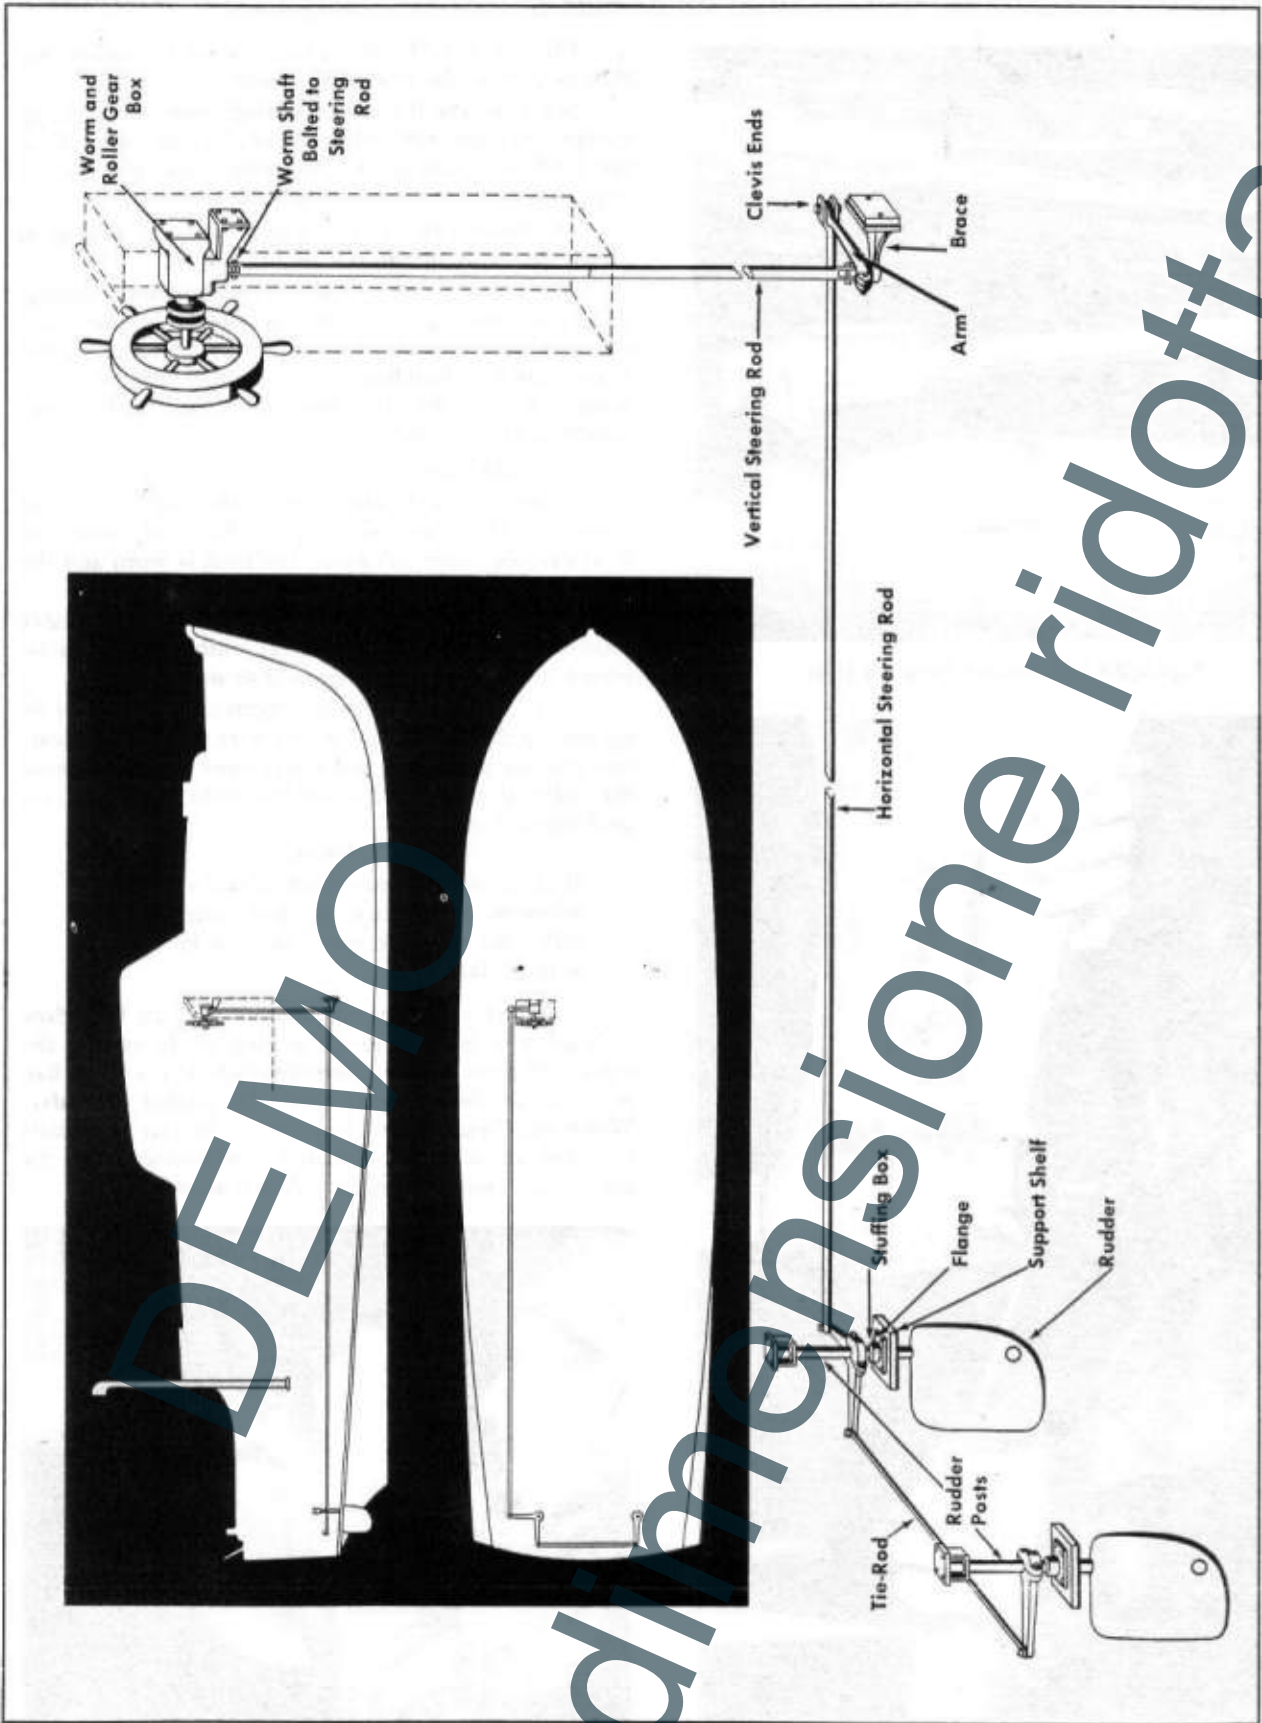

Figure 77—Link-Rod Steering Gear System
(a) This type is controlled by an automobile-type worm and roller gear, located behind the steering wheel panel, joined to the steering wheel shaft. A vertical pipe sleeve is keyed and bolted to the worm shaft, and to a short shaft extending upward from a horizontal brace attached at the bottom to the engine compartment forward bulkhead. (See figure 77.) At this point an arm joins the vertical pipe to a horizontal rod which runs along the port side to the rudders.
(2) RUDDER ASSEMBLY.—The rudders are connected by a tie-rod with clevis ends. An arm from the rudder post connects with the clevises. (See figure 77.) The rudders are carried by a flange bolted to a support shelf. Combined with the flange is a stuffing box packed with $\frac{3}{8}$ -inch flax packing.